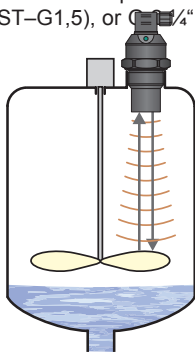

Fig. 12: False reflection from mixer blades
- q) The device should not be installed in places with the risk of **false reflections** of the ultrasonic signal from the mixer's blades (Fig. 12).